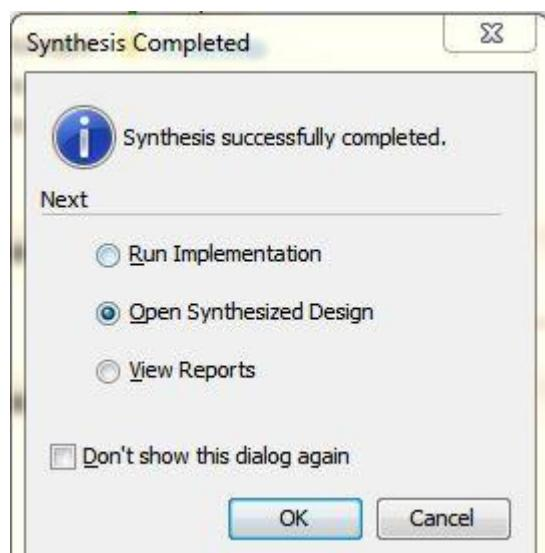

Figure 42: Synthesis Completed.
- d. After the Completion of synthesis a prompt will come where we have to select *Open Synthesized Design* as shown in the figure 42.